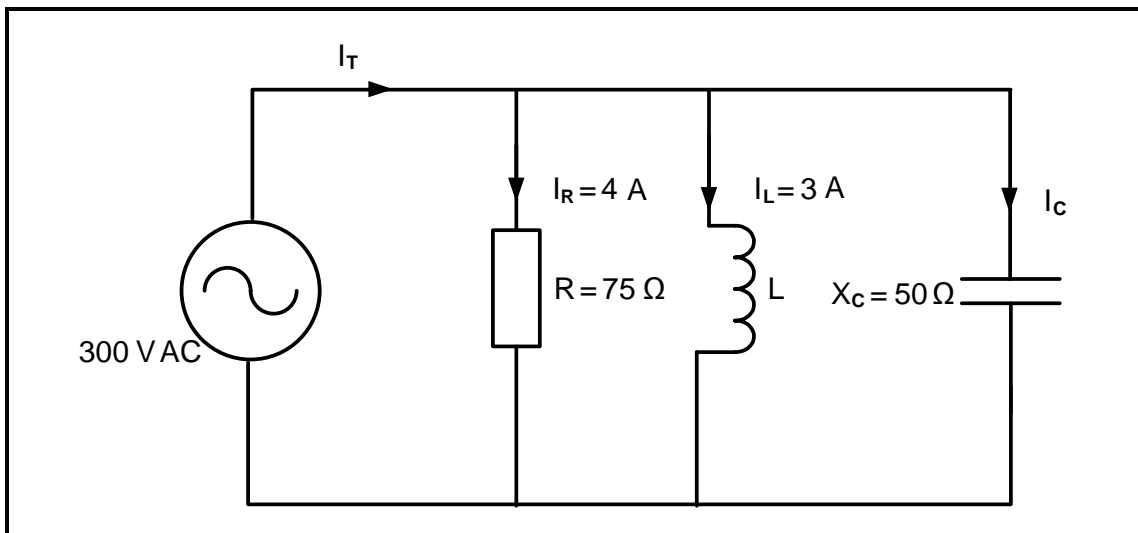

FIGURE 2.4: PARALLEL RLC CIRCUIT
- 2.4 FIGURE 2.4 below shows a parallel RLC circuit that consists of a 75Ω resistor, an inductor with unknown inductance value and a capacitor with a capacitive reactance of 50Ω , all connected across 300 V AC supply voltage. The current flowing through the resistor is 4 A and the current flowing through the inductor is 3 A . Answer the questions that follow.